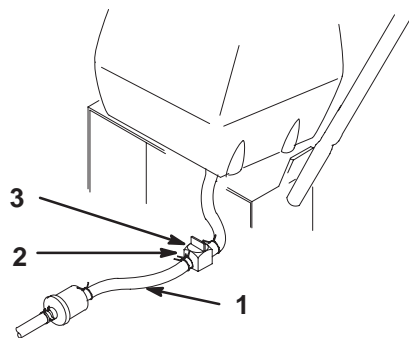

Figure 37
2. Close fuel shut-off valve (Fig. 37).
3. Squeeze the ends of the hose clamp together and slide it away from valve (Fig. 37).
4. Pull the fuel line off the valve (Fig. 37). Open fuel shut-off valve and allow gasoline to drain into a gas can or drain pan.